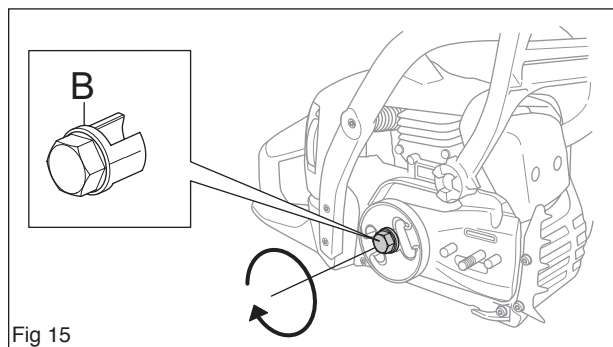

Fig 15
Unbolt the clutch using tool 502 54 16-03 (B) and a suitable socket or wrench. Turn the clutch clockwise to remove it. (see figure 15)